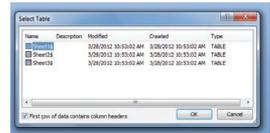

FIGURE 10 Select the Excel sheet number where your data is located from the Select Table dialog box.
G. Locate and select the **Excel spreadsheet** you just saved using the **Select Data Source** window (Fig. 9). A **Select Table** dialog box appears (Fig. 10).